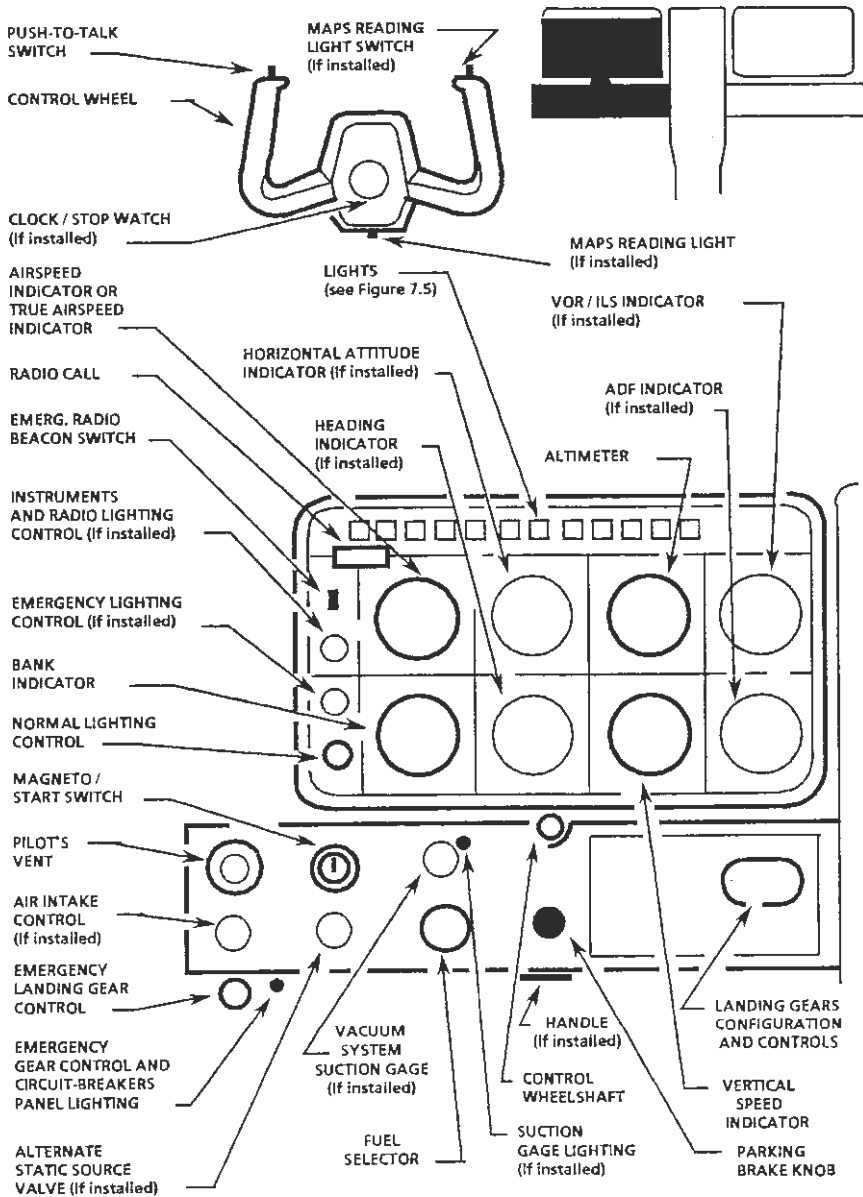

Figure 7.1 - EXAMPLE OF INSTRUMENT PANEL AND L.H. SUBPANEL
L.H. instrument panel (see Figure 7.1) is designed around the basic "T" configuration.
The L.H. panel strip (see Figure 7.1) contains from left to right : L.H. vent, magneto / start switch, fuel selector, parking brake knob, landing gears configuration and controls ; under the panel strip, on L.H. side, emergency landing gear control, on R.H. side, the "Alternate Air" (if installed) control ; alternate static source valve and vacuum system pressure gage (if installed) complete the L.H. panel strip.